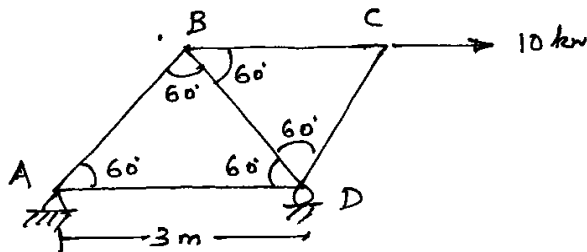

Fig 5
20. For the truss shown in figure 5 find the forces in all the members by method of joint.